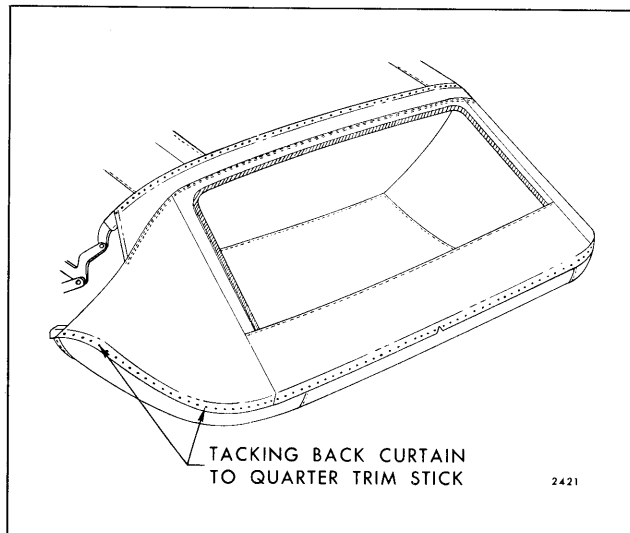

Fig. 13-14—Back Curtain Installation
9. Tack remainder of back curtain material to rear quarter trim stick (Fig. 13-14).